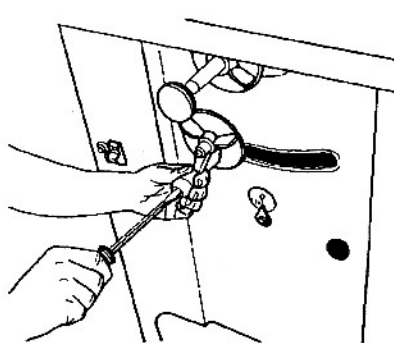

Fig. 28
40. Use a medium screwdriver to check the knob for tightness, as illustrated in Fig. 28.